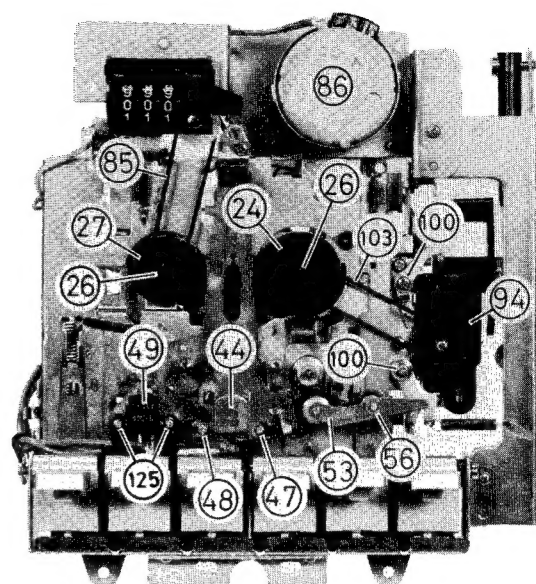

Fig. 21
Note: Reference numbers of Figs. 21 to 23 are the same as on Fig. 55.
A. Erase Head (49) (Refer to Fig. 21)
B. Play/Record Head (44) (Refer to Fig. 21)
C. Pinch Roller Arm Ass'y (53) (Refer to Fig. 21)
D. Take-up (24) & Supply (27) Disks (Refer to Fig. 21)
1. Detouch the belt (103) or (85)
2. Remove the reel stopper (26).
E. Shut-off Ass'y (94) (Refer to Figs. 21 & 22)
1. Detouch 2 belts (103) & (102).
2. Remove 2 screws (100).
F. Motor (86) (Refer to Figs. 21 & 23)